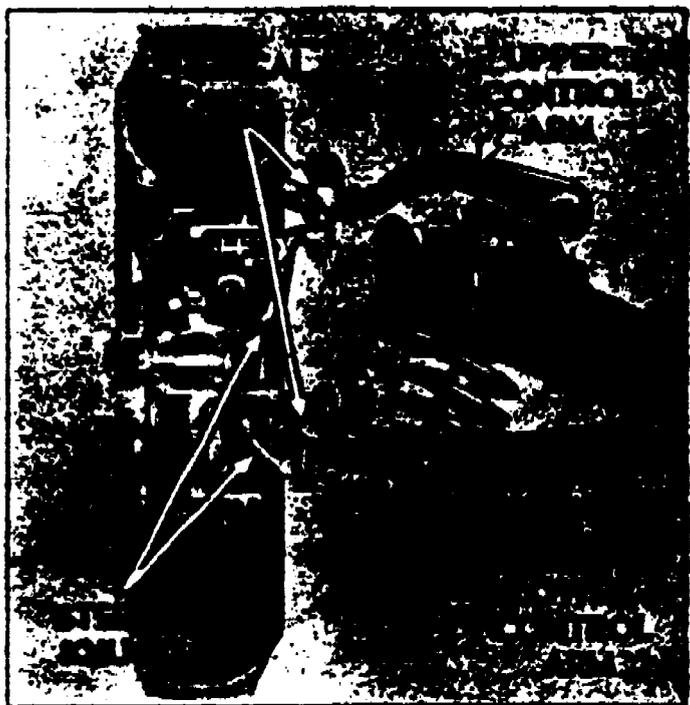
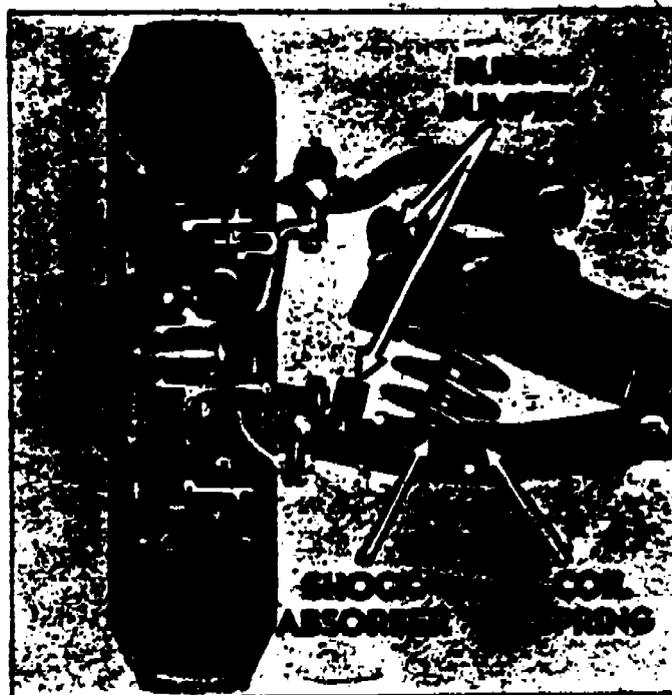

Figure 51. Ball Joint Suspension
Figure 52. Ball Joint Suspension
The parallel arm suspension is the most commonly used of the several independent wheel suspension types manufactured, figures 51 and 52. The upper and lower control arms are pivoted to the frame in an approximately parallel position. The steering knuckle support is mounted between the ends of these triangular shaped control arms. The inner ends of the upper control arm are attached to the frame by a control arm shaft and bushings, figure 51. The inner ends of the lower control arm are pivoted on a shaft having bearings (bushings) at each end of the shaft and supported by brackets bolted to the bottom of the frame cross member. Shock absorbers used are usually direct acting, mounted inside of the coil spring, figure 52, or on the control arm outside of the coil spring. Regardless of mountings the shock absorbers must be inspected for proper operation because they have a lot to do with good steering and riding qualities.
Coil springs are mounted between sheet metal cups riveted to the lower control arms and cups provided in the frame front cross member, Figure 52.
Rubber bumpers are mounted on the outer end of the front cross member or on the control arms to prevent metal to metal contact as the coil spring compresses and rebounds, figure 52.
6. Figure 52 shows two compression rubber bumpers. What is the purpose for these rubber bumpers?
10. What type shock absorbers are used in this study guide, figure 52?